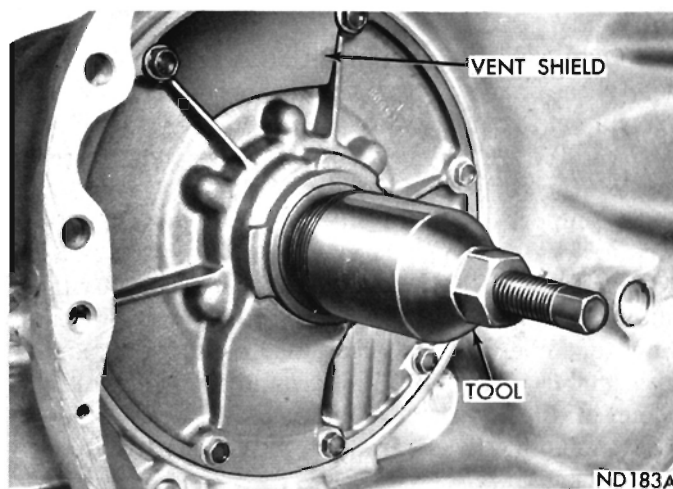

Fig. 41—Removing Pump Oil Seal
The pump oil seal can be replaced without removing pump and reaction shaft support assembly from the transmission case. The vent shield shown in (Figs. 41 and 42) is not used or required on the A-904 pumps.
(1) **A-904:** Screw seal remover Tool C-3758 into seal (Fig. 41), then tighten screw portion of tool to withdraw the seal.